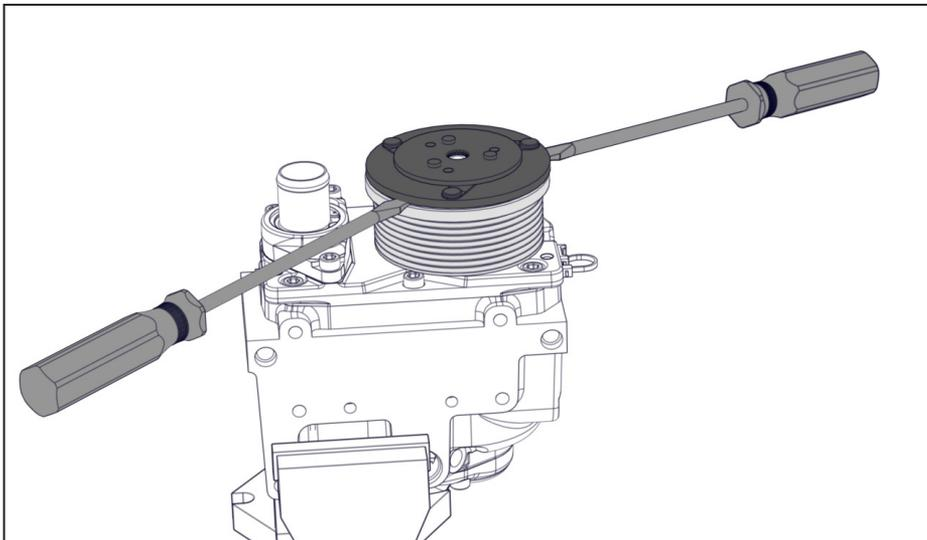

Figure 3 — Remove clutch armature
- Using (x2) small flat bladed screwdrivers, pry up on both sides of clutch armature to slide it off of the compressor shaft (Figure 3).